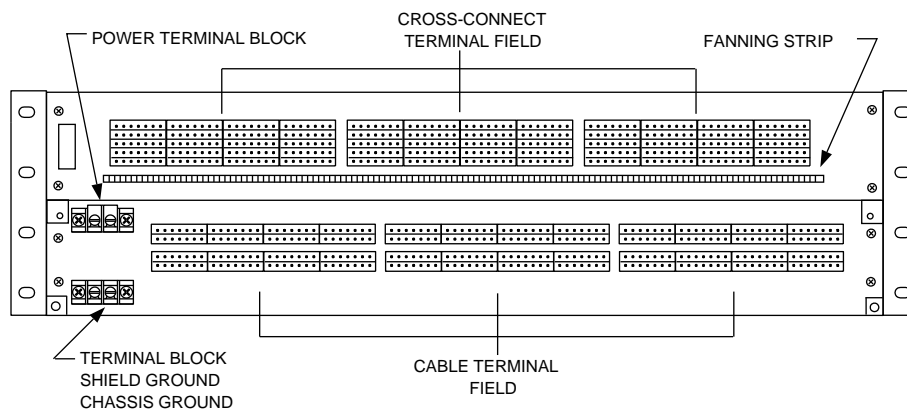

Figure 3. Rear View—84-Circuit Rear/Rear Hardwired Bantam Jack Panel (Jumper Tray Removed)
1. Dress equipment cables in the vertical channel (duct) and remove insulation. Tape conductor ends and dress into wiring channel of panel. Taped conductors should be protected approximately one inch (25 mm) into the panel (see Figure 3 on page 5).